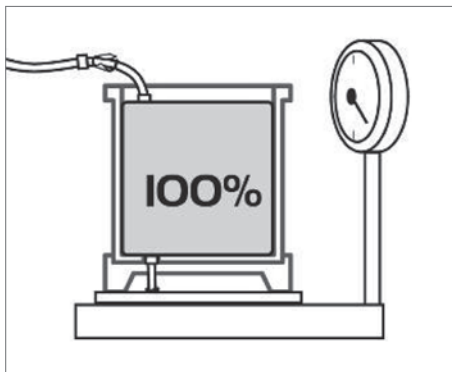

Fig. 19
6. Fill the bag to its nominal volume (see Fig. 19).